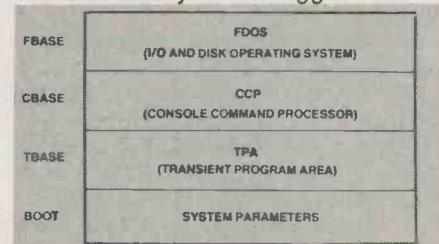

Figure 1. What CP/M looks like in RAM.
When CP/M is loaded into RAM, it looks like Figure 1. The areas of RAM are split up as follows:
Signetics' principle of voltage-controlled potentiometers is quite straightforward: the position of the 'wiper' of a potential divider within the IC is controlled electronically by a DC control voltage and the output from this wiper feeds an inverting op-amp. Figures 1 and 2 show how this principle can be used in two ways. In both configurations we can divide the potential divider into two parts: α , and $(1 - \alpha)$ where α is the ratio of resistance to one side of the wiper and $(1 - \alpha)$ is the ratio of resistance to the other side.
Figure 1. One of the two basic ways in which the gain block (the part of the circuit shown within the broken lines) of the TDA1074 can be used as a voltage-controlled potentiometer.
Inserting imaginary values of resistors ($R1 = R3 = 10k$, $R2 = 1M0$) into Fig. 1 we can calculate the gain (G) of the circuit. By inspection, when $a = 1$, i.e. when the wiper is at the far right of the potential divider,